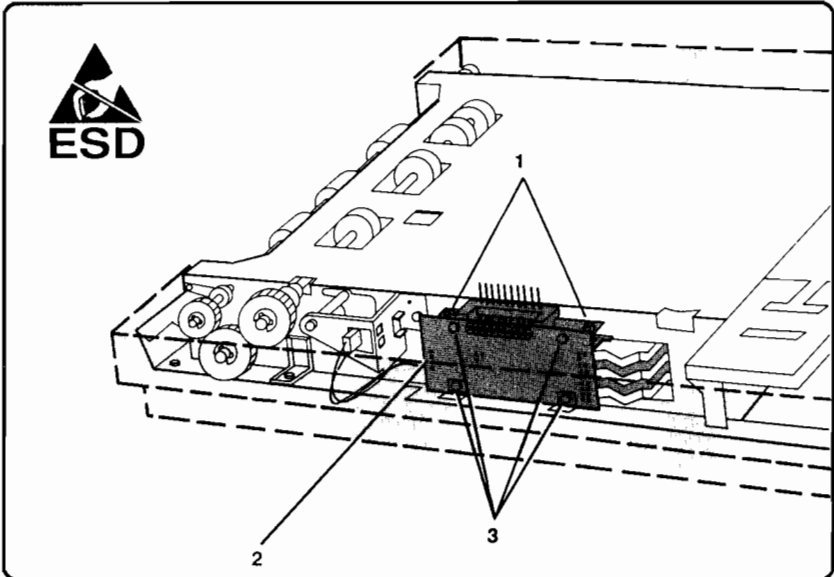

Figure 6-7. Removing the LC Base PCA (Cover Removed)
2. Remove the screws (2) securing the LC Base PCA bracket to the LC Base frame (see Figure 6-7, callout 1). Lift the PCA and bracket out of the LC Base.
3. Unplug the cable connector from connector J902 of the LC Base PCA (see Figure 6-7, callout 2).
4. Remove the screws (4) securing the PCA to its mounting bracket (see Figure 6-7, callout 3).
2. Remove the LC Base PCA and bracket (see Figure 6-7).